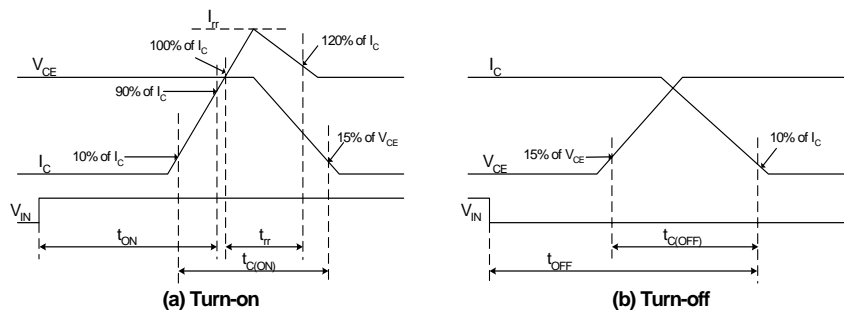

Fig. 4. Switching Time Definition
3.  $t_{ON}$  and  $t_{OFF}$  include the propagation delay time of the internal drive IC.  $t_{C(ON)}$  and  $t_{C(OFF)}$  are the switching time of IGBT itself under the given gate driving condition internally. For the detailed information, please see Fig. 4